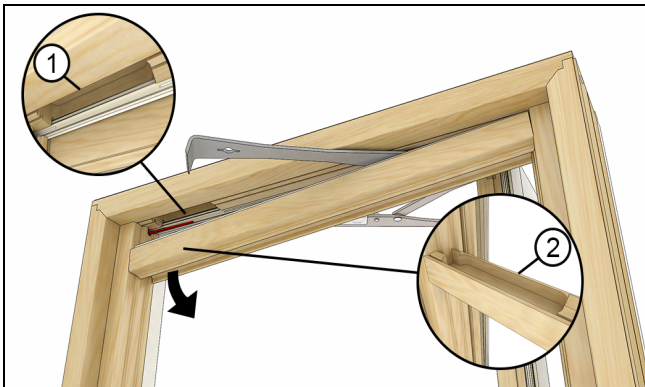

Figure 1
2. Remove the head jamb part stop. Gently pry along the part until the stop is separated from the frame. See Figure 1.